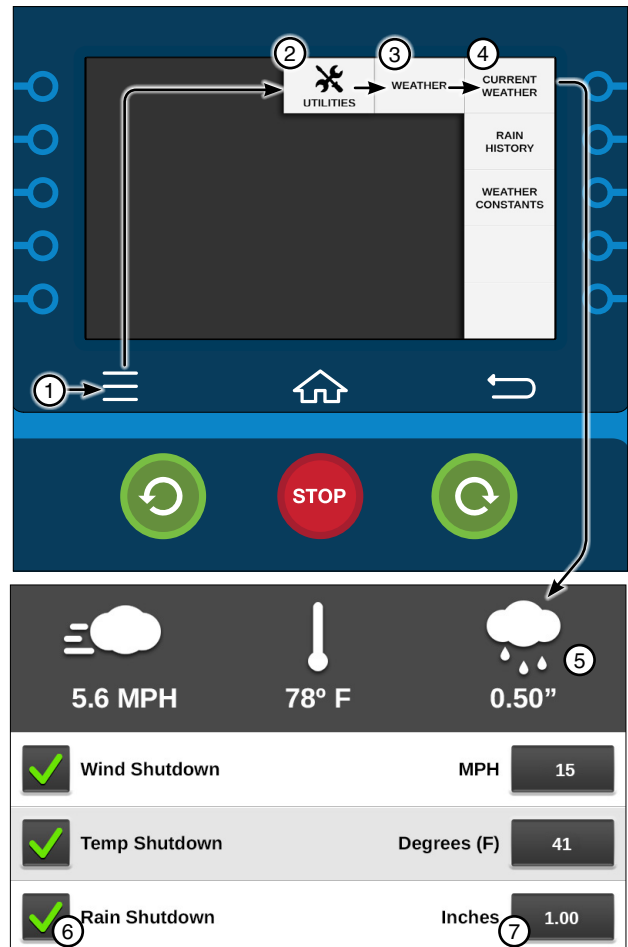

Figure 75-1 1. Menu 2. Utilities 3. Weather 4. Current Weather 5. Rain Measurement 6. Rain Shutdown Checkbox 7. Rain Shutdown Limit
1. Push **Menu**, **Utilities**, **Weather**, and **Current Weather** to display the Current Weather screen. Refer to Figure 75-1.
Check the **Rain Shutdown** checkbox to enable the rain shutdown function, and uncheck the checkbox to disable the rain shutdown function. Refer to Figure 75-1.
3. Using the numeric keypad, enter the number of inches. Example: 1, 5, 0 for 1.50. Refer to Figure 75-1.